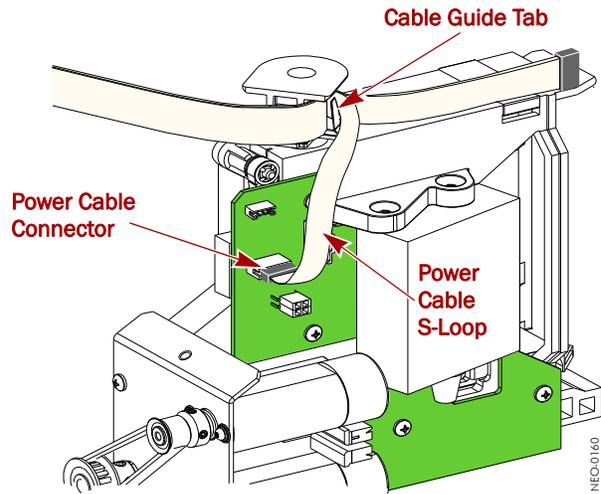

Figure 8. Connect the Shuttle Power Cable
- c. Align the wrapped lower spooler assembly over and slide it onto the shuttle **mounting post** (Figure 8). Make sure that both the Signal Controller and the Power cables are threaded **outside** of the angled edge of the cable guide tab.
- a. Without bending the cable, carefully loop and insert the **Power cable** into the Power cable connector (Figure 8).